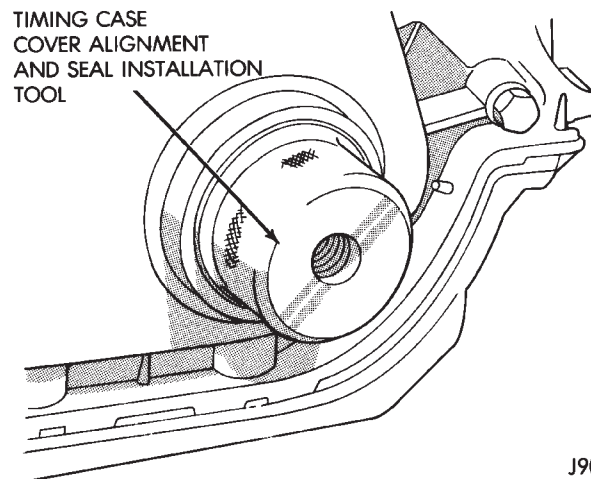

Fig. 5 Timing Case Cover Alignment and Seal Installation Tool 6139
(1) Install a new crankshaft oil seal in the timing case cover. The open end of the seal should be toward the inside of the cover. Support the cover at the seal area while installing the seal. Force it into position with Seal Installation Tool 6139.
(2) Position the gasket on the cylinder block.
(3) Position the timing case cover on the oil pan gasket and the cylinder block.
(4) Insert Timing Case Cover Alignment and Seal Installation Tool 6139 in the crankshaft opening in the cover (Fig. 5).